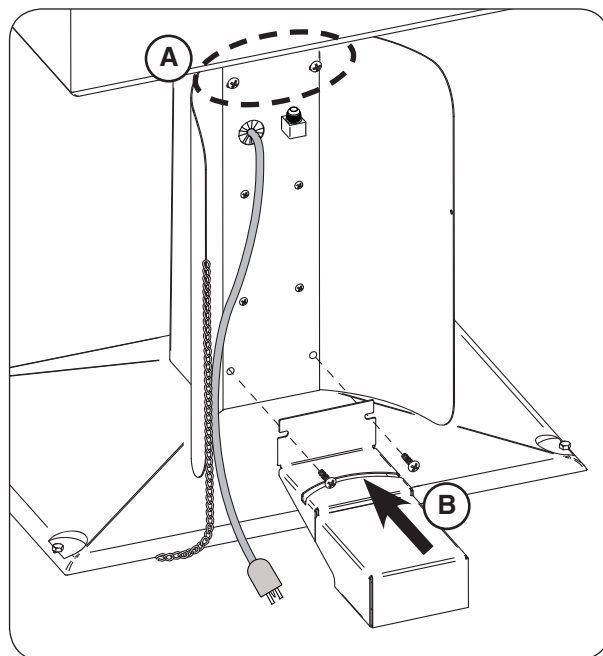

Fig. 2-2 Secure tank shield and tank support
4. Locate and align the tank shield plate to the top 2 holes on the rear of the post, and tighten the top using two screws (see Fig. 2-2, A). Then place the tank support at the bottom of the post, with its screw holes lining up over the screw holes found on the bottom of the tank shield. Tighten using the final two screws. (See Fig. 2-2, B.)